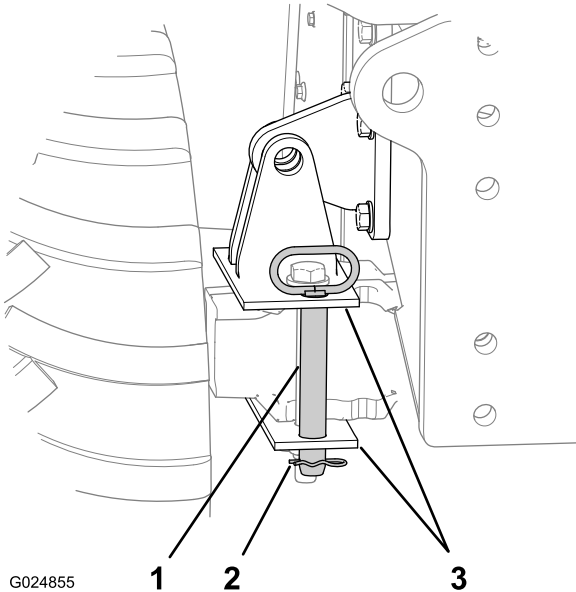

Figure 50
2. Remove the hairpin from the tilt-lockout pin (Figure 50).
1. Insert the tilt-lock pin through the vertical holes in the axle-lockout bracket (Figure 50).
2. Secure the pin to the lockout bracket with the hairpin (Figure 50).